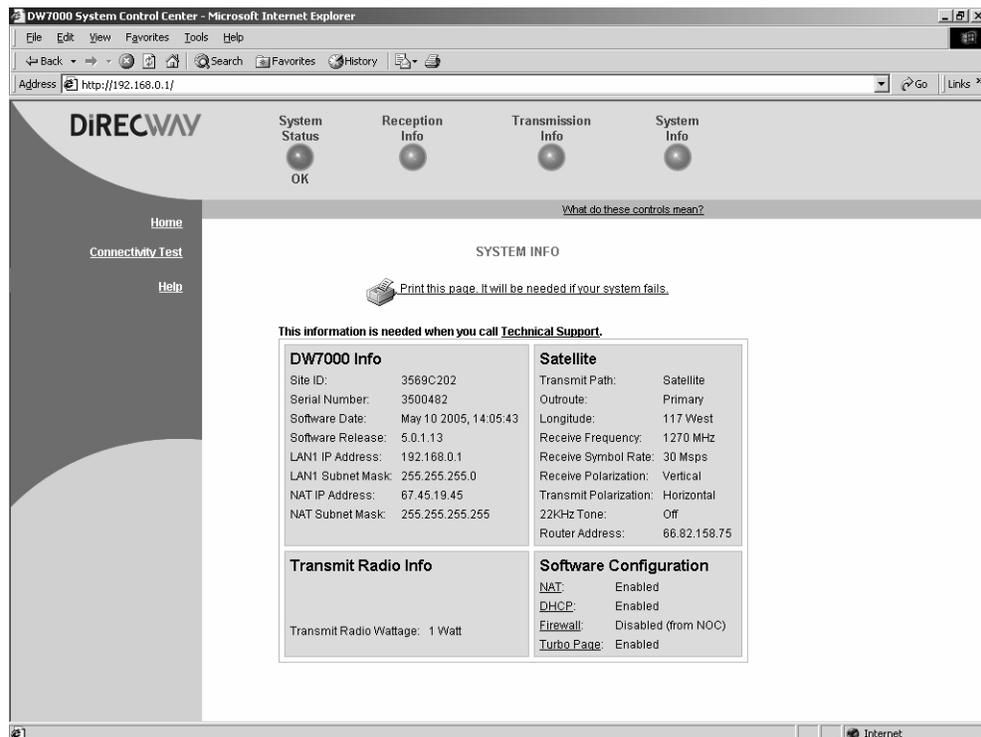

Figure 81: System Information page
1. At the System Control Center, click the **System Info** indicator. The System Information page appears. See Figure 81.
Note: Figure 81 depicts a System Information page for an end customer whose terminal was registered with a SAN and PIN. The figure is for illustrative purposes only and may not reflect the System Information page for your installation.